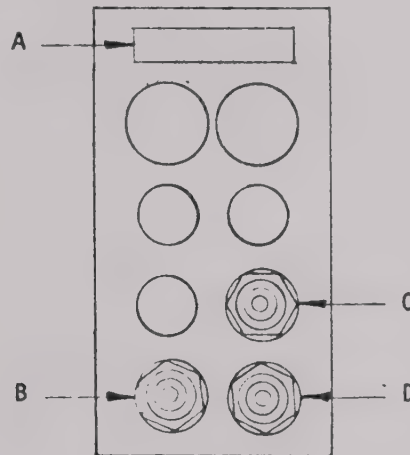

Figure 2-2
2.3 Rear Panel Connectors (refer to Figure 2-2)